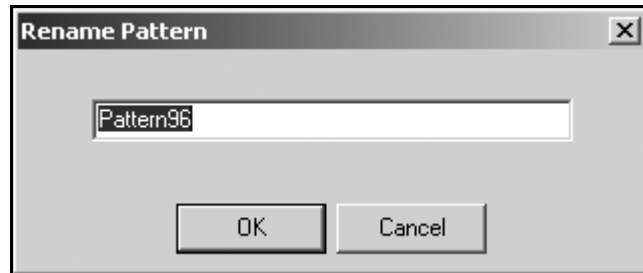

Figure 3-10. Rename Pattern
5. Choose **Rename** to rename the new pattern. Rename Pattern appears (Figure 3-10).